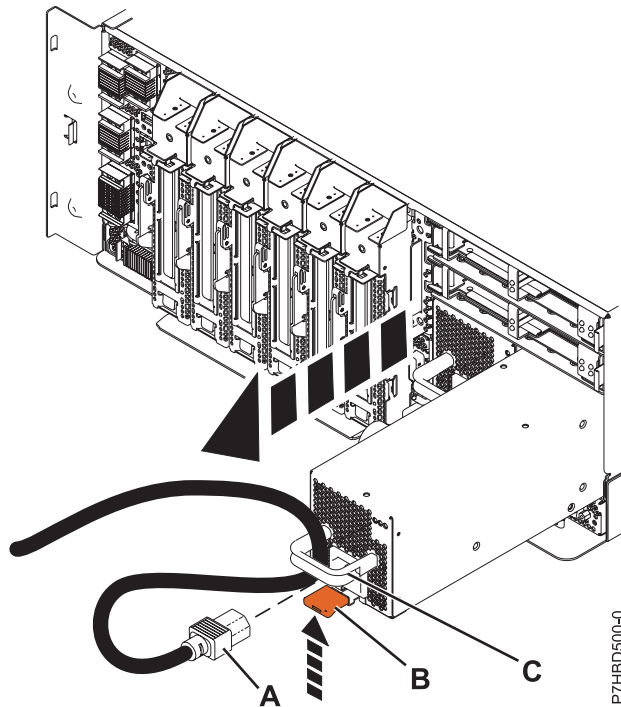

Figure 1. Removing the power supply
6. Lift the tab (B) toward the power cord retainer (C) to release the power supply.
7. Disconnect the power cord (A).
8. Pull the power supply away from the system, as shown in Figure 1.